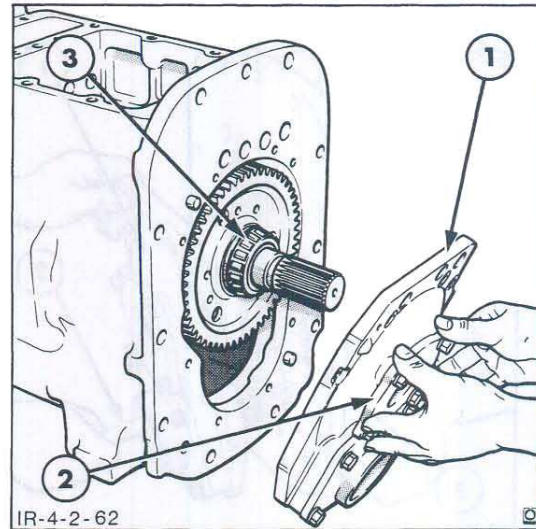

Figure 63
4. Install the output shaft into the transmission case from the rear end and mate up with the rear input shaft. Temporarily support the output shaft as shown in Figure 63.